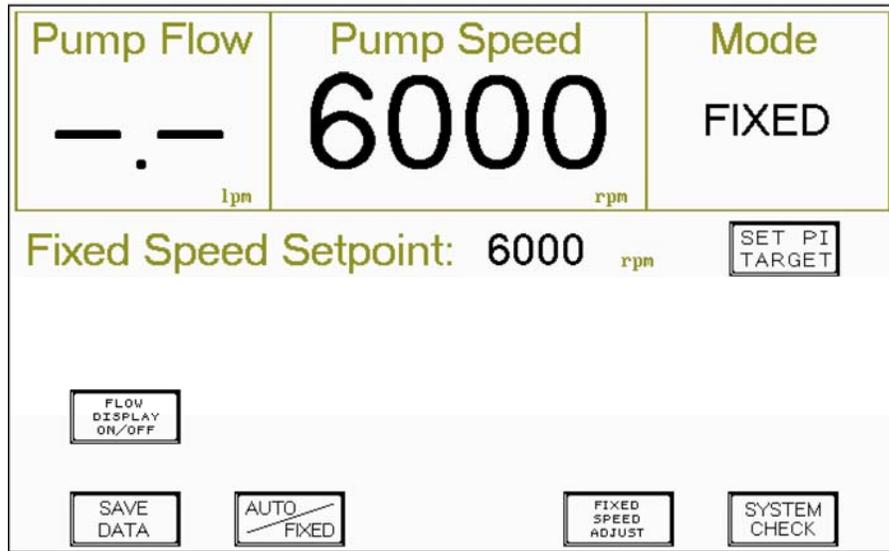

Figure 14: Clinical screen - LVAD in Fixed Mode & operating at 6,000 RPM
- 14 When all air has been removed from the blood pump, it is safe to increase the pump speed (rpm). Adjust the Fixed Speed Setpoint by depressing the “FIXED SPEED ADJUST” button in the Clinical or System Check screens (Figures 14 & 15). followed by the “DEC. VALUE” or “INC. VALUE” key to select the desired pump speed setting Once the desired speed (rpm) is selected, press the “Enter” button to send the command to the System Controller.
- 10 Figures 14 and 15 demonstrate the typical screens that will be displayed by the System Monitor upon system startup.